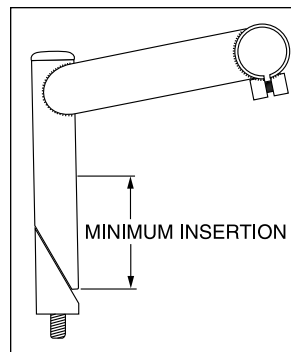

Figure 1
4. On threaded steerers, insert stem to a minimum depth according to CPSC and JIS standards. The stem must be inserted to a minimum engaging length not less than 2.5 times the stem diameter from the lowest end of the stem (not wedge, see Figure 1).